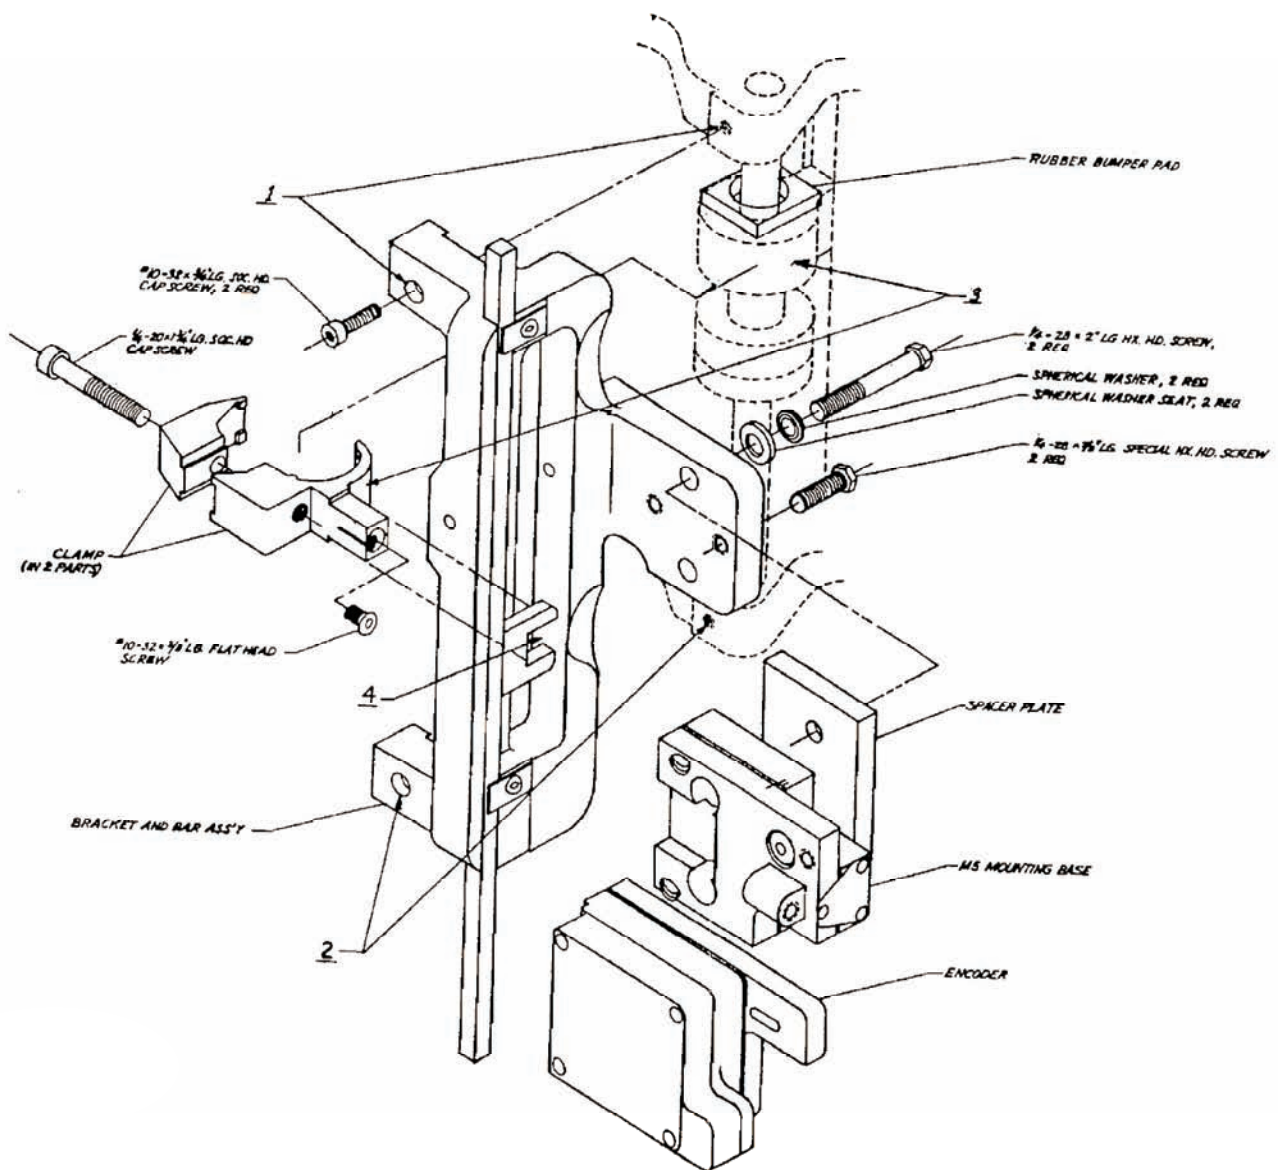

Figure 3-1
- a. Present bracket to machine and transfer top hole (1) from BR1Z bracket to quill housing. Drill and tap 10-32 1/2" deep.
- b. Mount bracket using tapped hole and transfer bottom hole (2). Drill and tap 10-32 x 1/2" deep.
- a. Install the quill stop knob clamp as shown in figure 3-1.
- a. Install the bracket so the clamp bar driver fits into the rectangular space on the BR1Z bar (4 on figure 3-1). Adjust the clamp so the fit is proper.